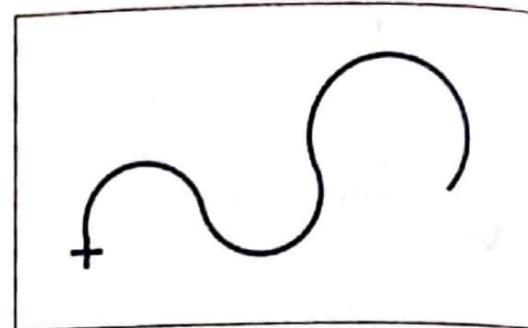

Fig. 19.12 Polyline drawn using the arc option
- Press the right mouse button, then enter. See Fig. 19.12.